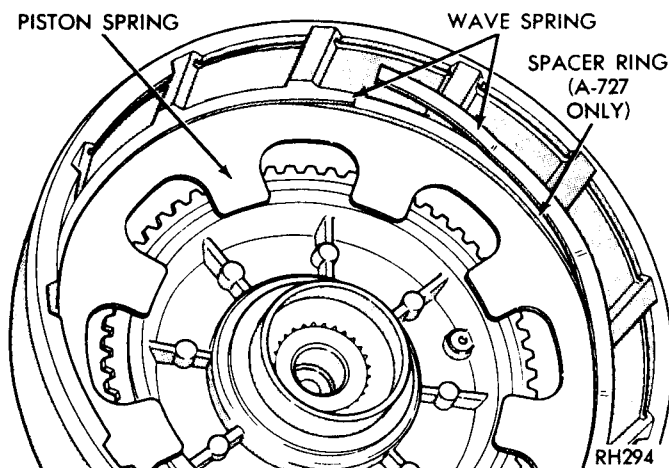
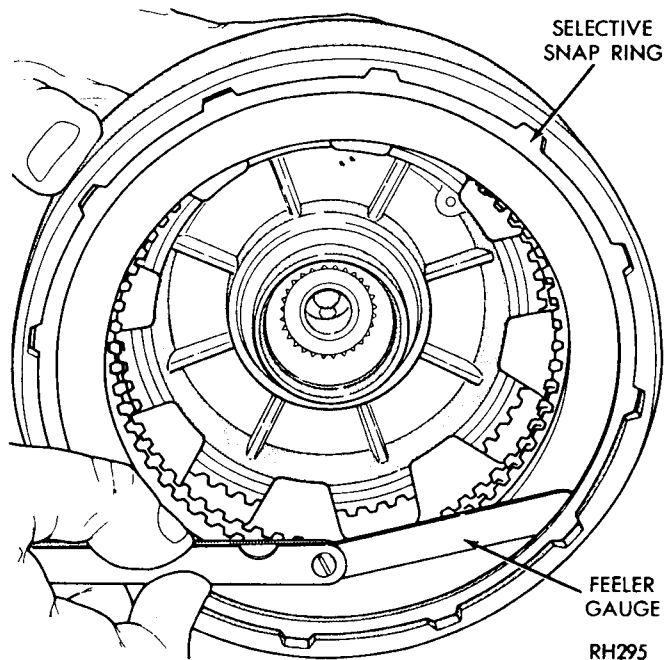
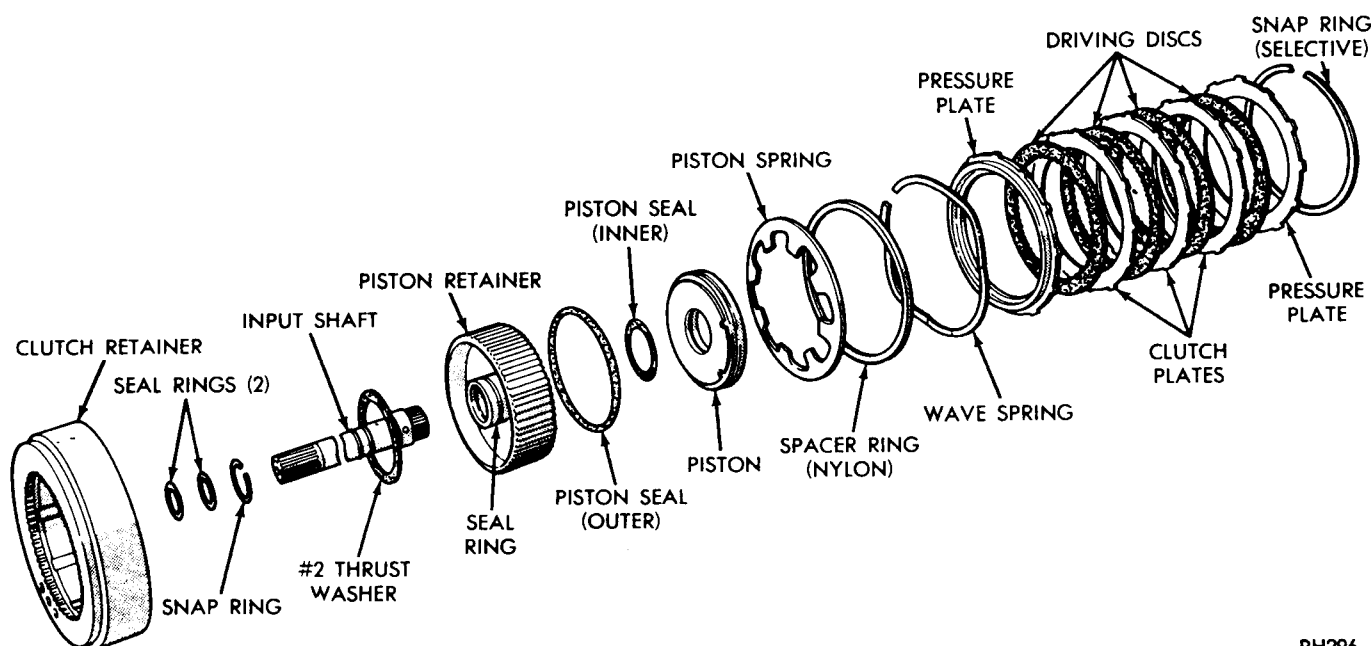

Fig. 28—Install Rear Clutch Spring
Fig. 29—Measure Rear Clutch Plate Clearance
Fig. 30—Rear Clutch (A-727)
(3) Place piston assembly in retainer and, with a twisting motion, seat piston in bottom of retainer.
(4) Place clutch piston spring on top of piston in clutch retainer. Start one end of wave spring in retainer groove (Fig. 28), then progressively push or tap spring into place making sure it is fully seated in the groove.
(5) Install inner pressure plate in clutch retainer
(6) Lubricate all clutch plates, install one lined disc followed by a steel plate until all plates are installed. Install outer pressure plate and selective snap ring.
(7) Measure rear clutch plate clearance by having an assistant press down firmly on outer pressure plate, then insert a feeler gauge between the plate and snap ring (Fig. 29).
Figure 30 shows a disassembled view of the rear clutch assembly.
Inspect seal rings (Fig. 30) on input shaft for wear or broken locks, make sure they turn freely in the grooves. Do not remove rings unless conditions warrant. Inspect bushing in input shaft for wear or scores. Inspect rear clutch to front clutch #2 thrust washer for wear. Washer thickness should be .061 to .063 inch, replace if necessary.
(1) If removed, press input shaft into clutch piston retainer and install snap ring.
(2) Lubricate and install inner and outer seals on clutch piston. Make sure seal lips face toward input shaft, and seals are properly seated in piston grooves (Fig. 30).
(3) Place piston assembly in retainer and, with a twisting motion, seat piston in bottom of the retainer.
(4) Position clutch retainer over piston retainer splines and support the assembly so clutch retainer remains in place.
(5) Place clutch piston spring and spacer ring on top of piston in clutch retainer, make sure spring and spacer ring are positioned in the retainer recess. Start one end of wave spring in retainer groove (Fig. 28), then progressively push or tap spring into place making sure it is fully seated in the groove.
(6) Install inner pressure plate in clutch retainer with raised portion of plate resting on the spring.
(7) Lubricate all clutch plates, install one lined disc followed by a steel plate until all plates are installed. Install outer pressure plate and selective snap ring.
(8) Measure rear clutch plate clearance by having an assistant press downward firmly on outer pressure plate, then insert a feeler gauge between the plate and snap ring (Fig. 29). See "Specifications" for allowed clearance. If necessary, install a new snap ring